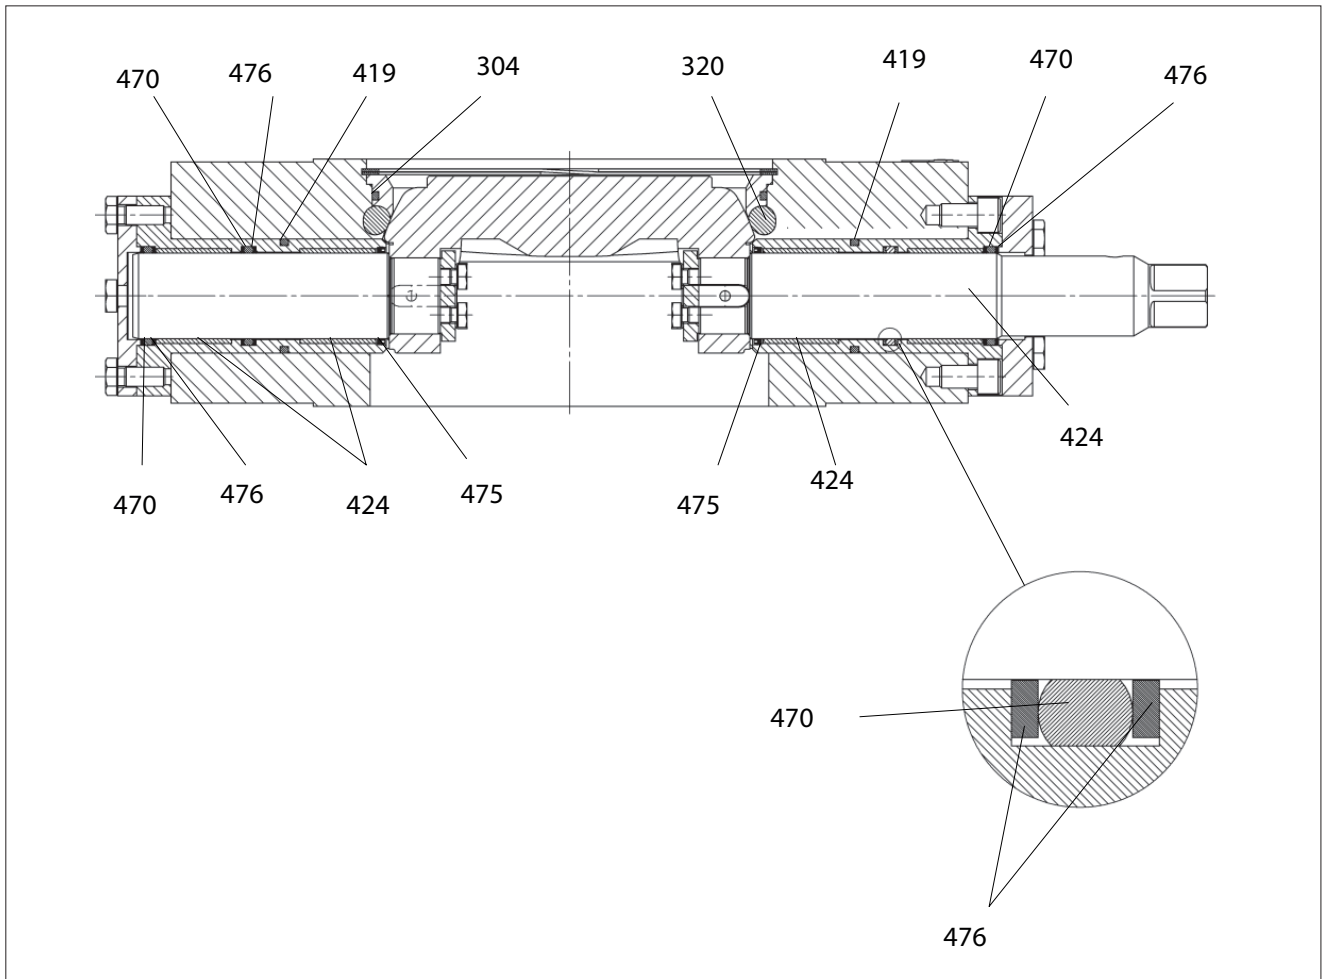

Fig. 13 Seals and bushings
Also check the condition of the O-ring seals (419, 470), the supporting rings (476), the shaft seal and the bushings (424) (see fig. 13).